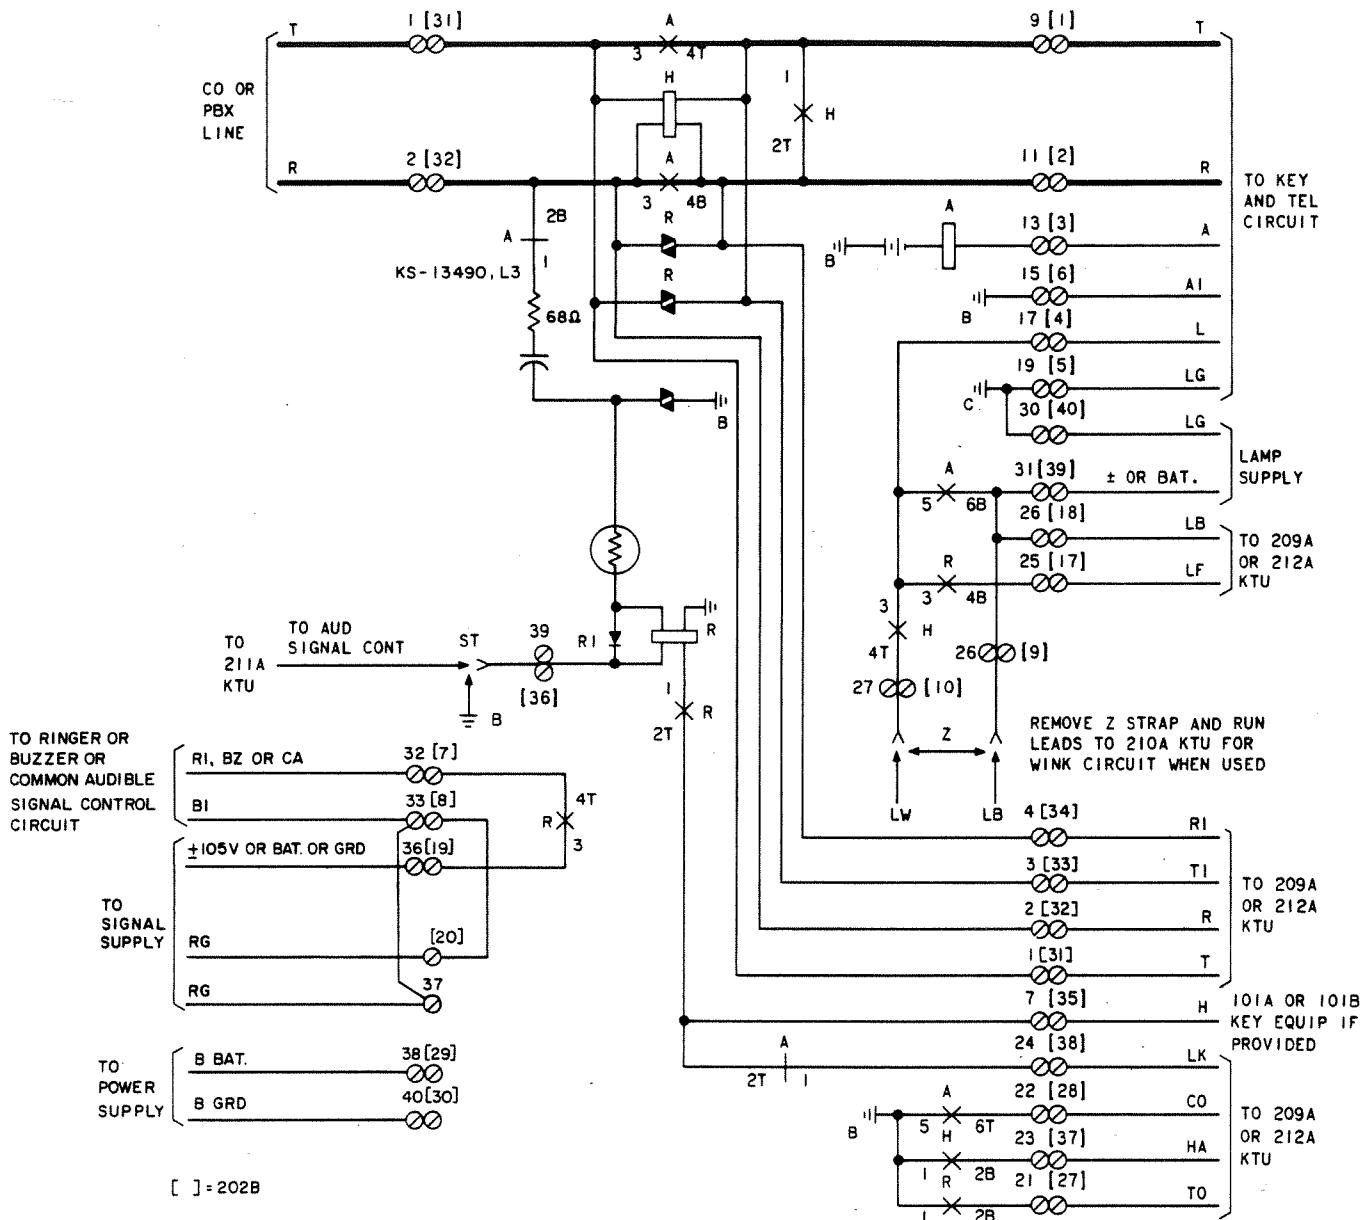

Fig. 2—Functional Schematic of 202A (MD) and 202B KTU (MD) (CO or PBX Line Circuit)
2.05 The 202A and 202B KTUs (Fig. 2) are arranged for grounded ringing only.